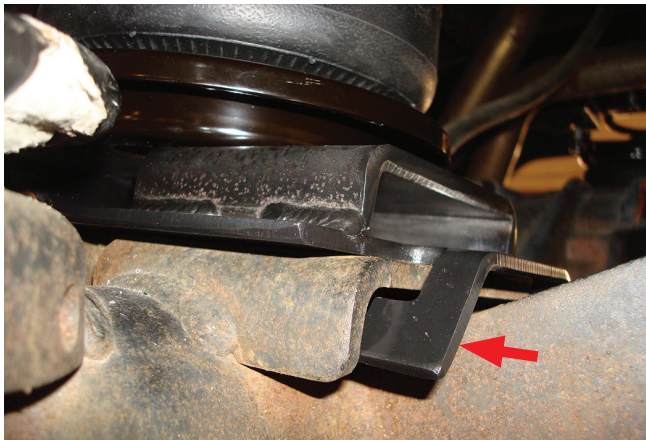

Fig. 22
3. Set the left (driver's) side assembly into position with the carriage bolt still in the slot (previously installed). Set into place on the axle, making sure the back of the bracket is "hooked" below the jounce bumper strike plate. Push the assembly forward while lining up the carriage bolt with the existing hole in the front of the lower jounce bumper strike plate (Figs. 22 & 23). Cap the carriage bolt with a 3/8" serrated lock nut (L), but leave loose at this time.